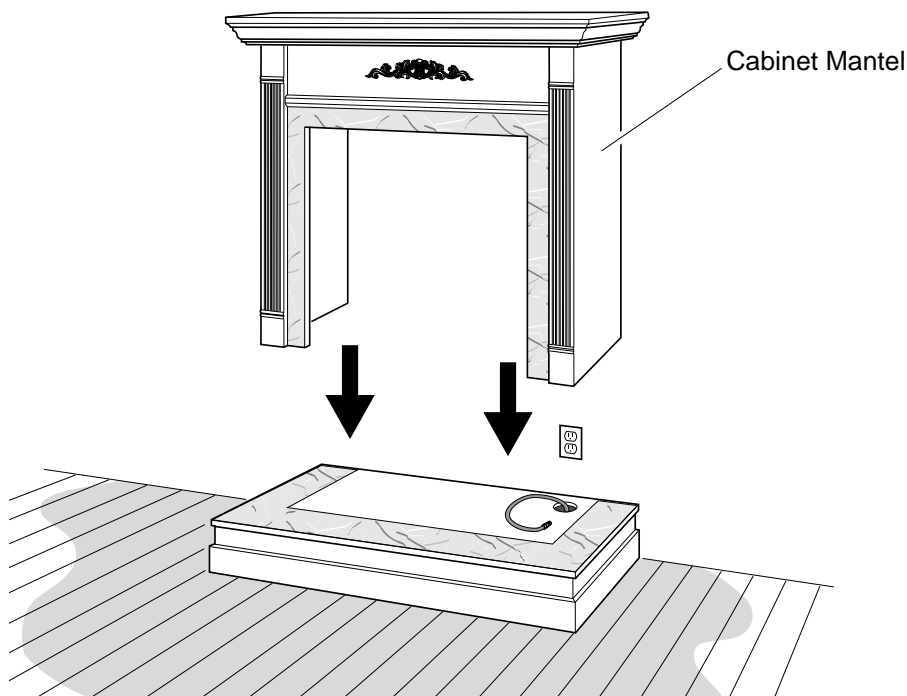

Figure 9 - Installing Cabinet Mantel
6. Center cabinet mantel on hearth base (see Figure 9). Make sure mantel is flush against wall.